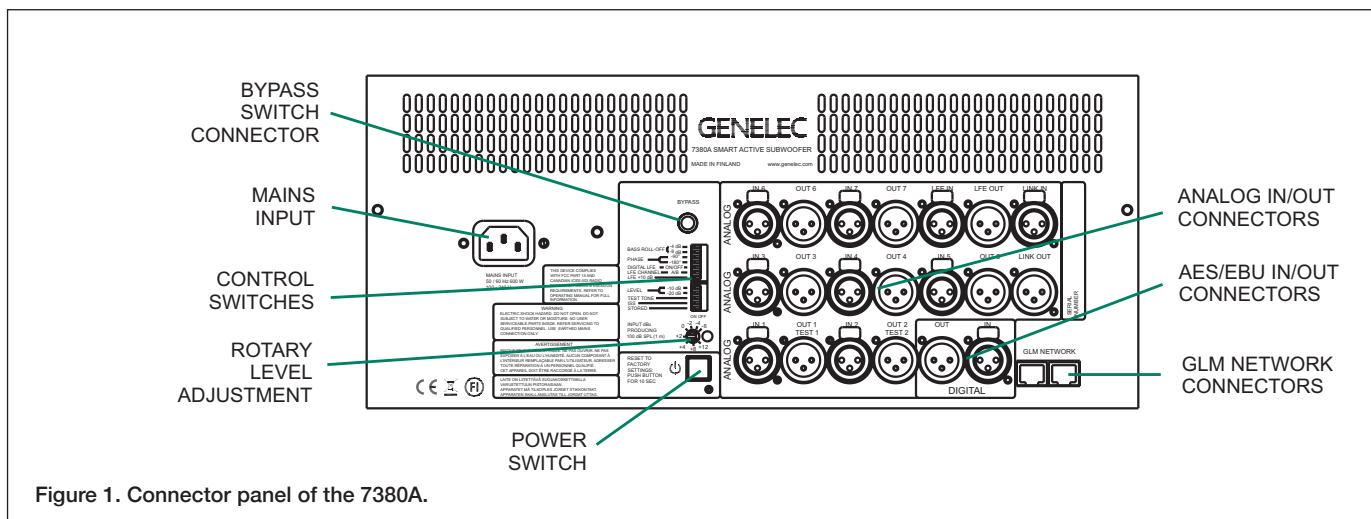

Figure 1. Connector panel of the 7380A.
- Connect a CAT5 (RJ45) cable between each monitor (and subwoofer) and finally to the control network input of the GLM Adapter device (see Figure 1).